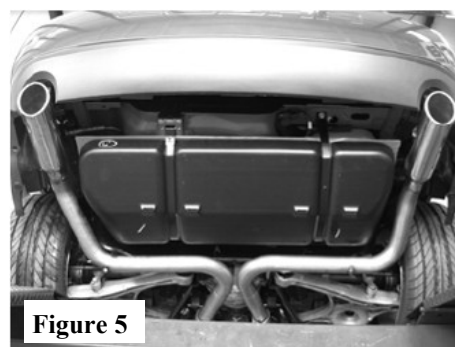

Figure 5
4. Place a clamp over the expanded end of left and right tail pipe assemblies and place each one into position making sure to install the hangers into the rubber brackets. DO NOT TIGHTEN CLAMP BOLTS. (See Fig.5 & 6)